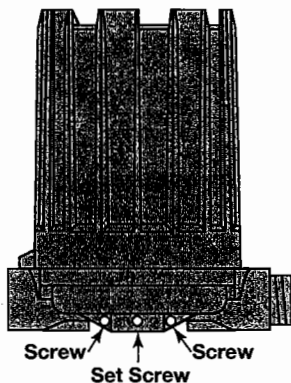

Figure 2
1. Loosen set screw(s) at base of switch housing. Refer to Figure 2.